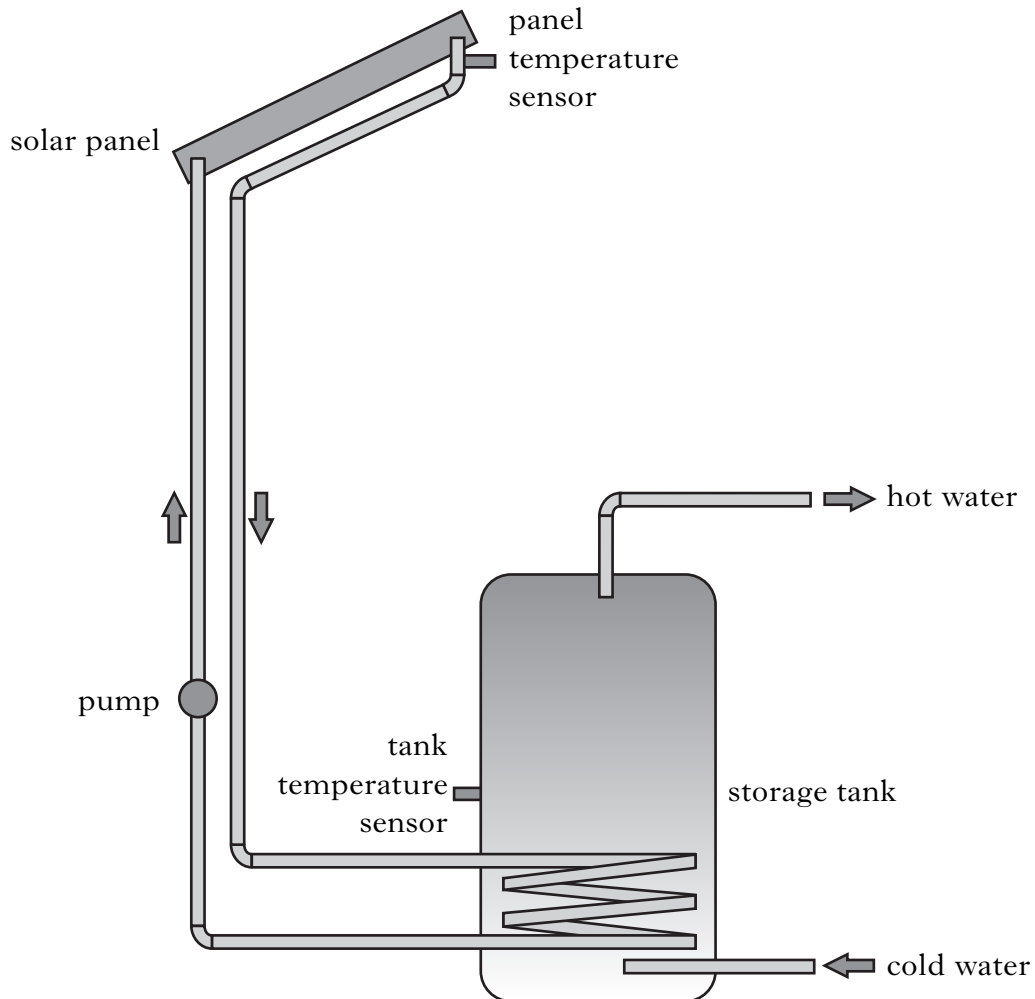

Figure Q9(a)
9. A domestic hot-water system receives heat from the sun through a solar panel. A pump circulates water from the solar panel to heat the water in the storage tank, as shown in Figure Q9(a).